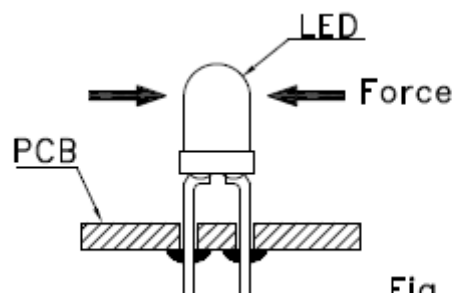

Fig. 9
6. After soldering or other high-temperature assembly, allow the LED to cool down to 50 °C before applying outside force (Fig.9). In general, avoid placing excess force on the LED to avoid damage. For any questions please consult with LIGHT representative for proper handling procedures.